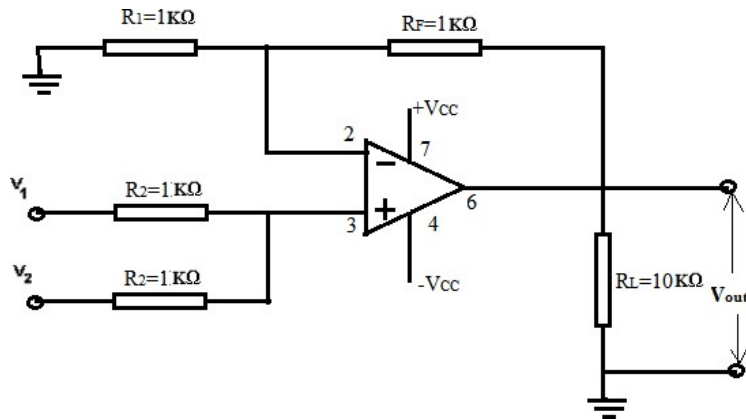

Figure 1: Circuit diagram of Op-Amp as Adder
Op-amp can be used to design a circuit whose output is the sum of several input signals. Such a circuit is called a summing amplifier or an adder. Summing amplifier can be classified as inverting and non-inverting summer depending on the inputs applied to inverting and non-inverting terminals respectively. Figure 1 shows a non-inverting adder with n inputs. Here the output will be the linear summation of input voltages. The circuit can also be used as summing amplifier, scaling amplifier, or as an averaging amplifier also.
1. Connect the adder circuit as shown in Figure1.